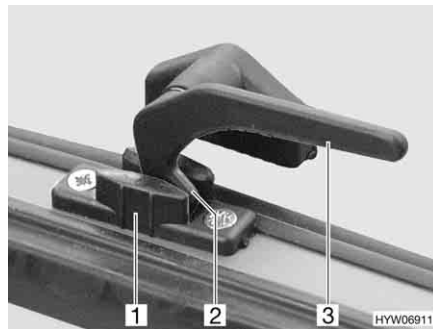

Fig. 77 Catch lever in the "continuous ventilation" position
- "Continuous ventilation" (Fig. 77)
- Turn the catch lever (Fig. 77,3) a quarter turn towards the centre of the window.
- Return the catch lever to its initial position. The locking catch (Fig. 77,2) has to be moved into the recess of window catch (Fig. 77,1).